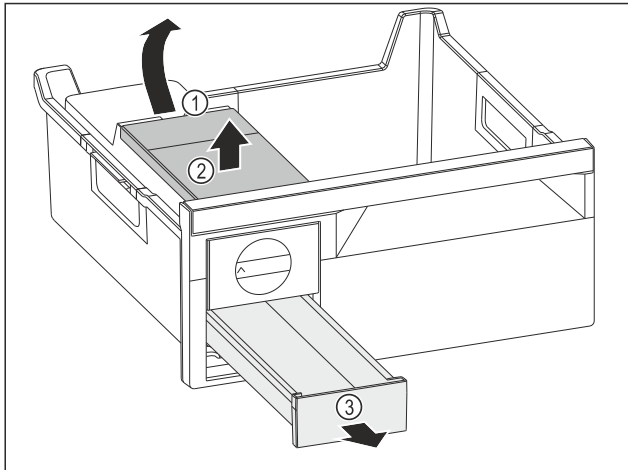

Fig. 211
- ▶ Removing the water tank: Lift the water tank by the recess Fig. 211 (1).
- ▶ Remove the water tank Fig. 211 (2) upwards.
- ▶ Remove the ice cube drawer Fig. 211 (3) to the front.